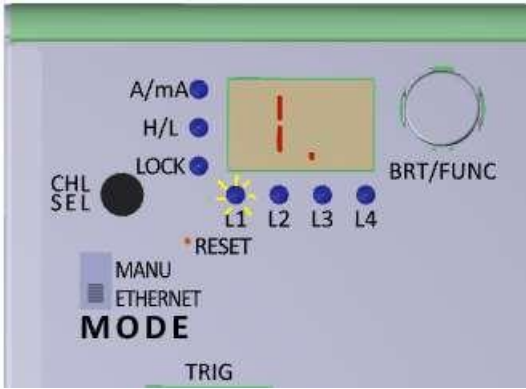

Fig 10
-Press **FUNC** Button for enter current limit mode (Fig 10)
-After enter current limit mode, the display show Current mode as Fig 10